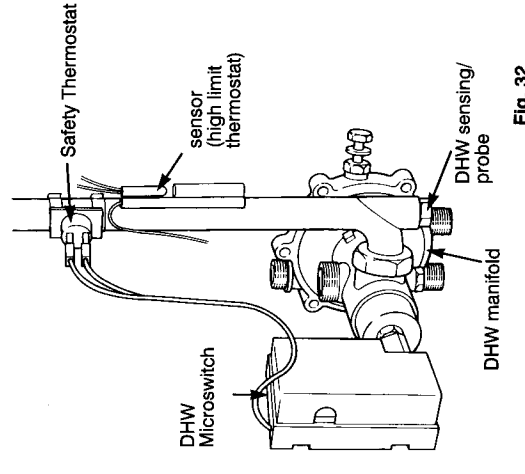

Fig. 32
Refer to fig. 32
- 8.22.26** Unscrew sensing probe from bottom of main flow tube. (fig. 32) N.B. If the plastic grill has not been removed (8.4.2) it will need to be done now.